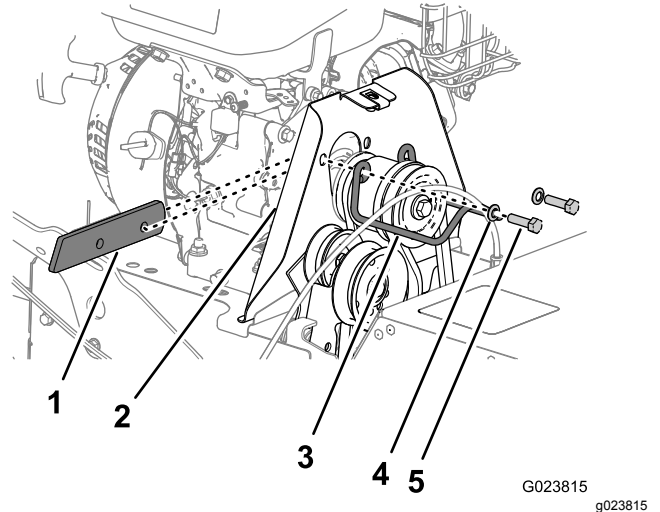

Figure 39
2. Remove the 2 bolts and 2 washers that secure the belt guide to the machine, and remove the belt guide and the spacer (Figure 39).
4. Align the spacer between the engine and the pulley shined and align the holes in the spacer, engine, and shield (Figure 39).
5. Secure the pulley guide to the machine with the bolts and washers (Figure 39) that you removed in step 2 of Removing the Broom-Drive Belt (page 26).